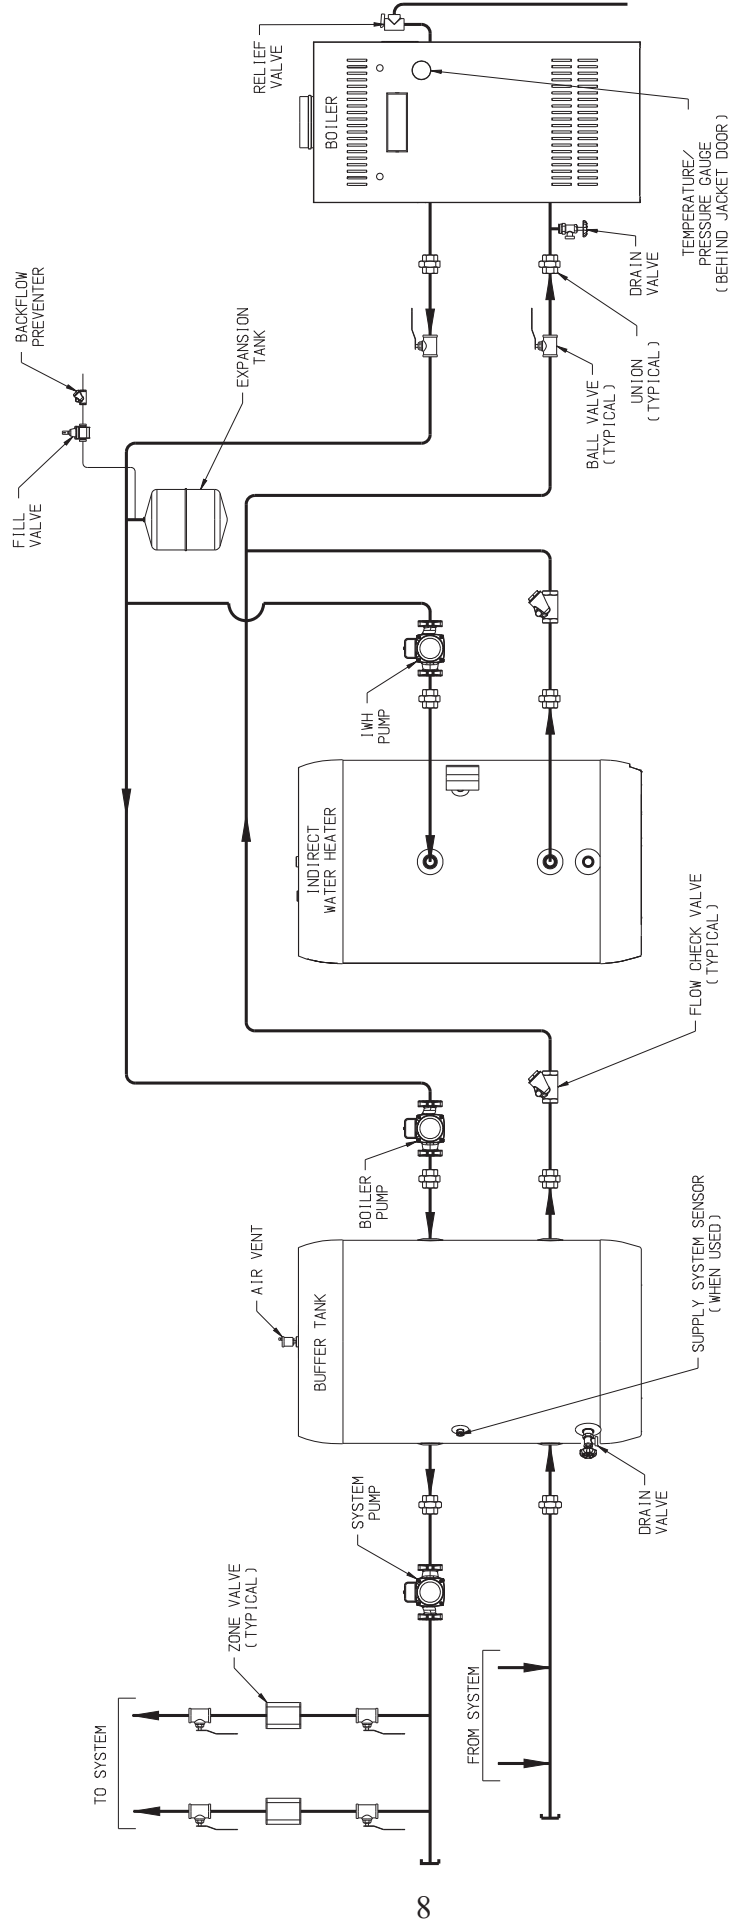

FIGURE 6.2: PIPING METHOD #2 - INDIRECT WATER HEATER, LOW PRESSURE DROP BOILER WITH EXTERNAL PUMP
Method #2 – Indirect Water Heater, Boiler Has Externally Mounted Pump – Figure 6.2 shows one way of using a buffer tank and indirect water heater in a system. Recommended piping is designed to avoid circulating water through the buffer tank during a call for domestic hot water (DHW), as doing so will reduce DHW response and may also cause overheating of the water going to the heating system. In this system, the boiler pump runs during a call for central heat (CH) and the DHW pump runs during a call for domestic hot water. Note that the DHW pump must be able to overcome both the pressure drop through the boiler and that through the indirect water heater, while producing the flow rate required by both. When the boiler has a large pressure drop, as is the case of many water tube boilers, this may be impractical or very expensive. In such cases, use Method #3 instead.